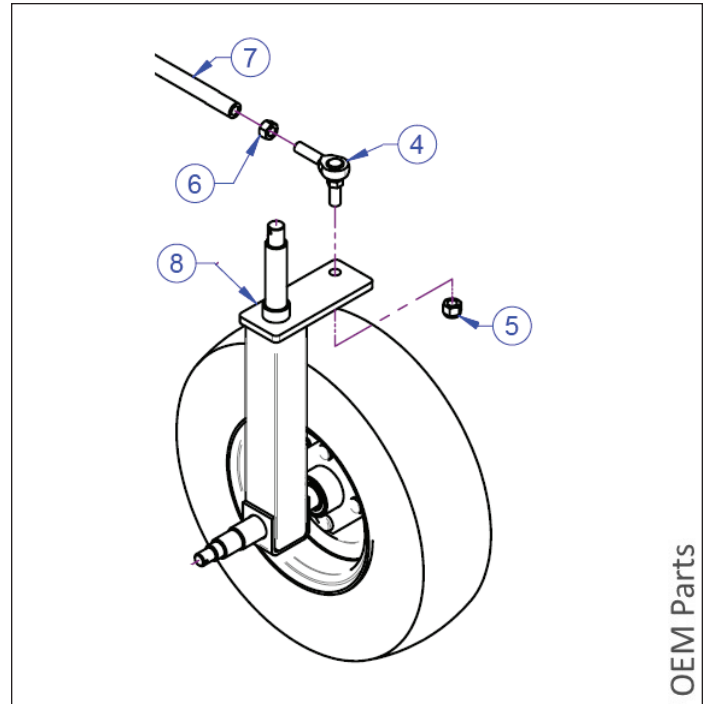

Figure 6-8. Long Steering Rod and Dual Hub
ASSEMBLY (FIGURE 6-8)
3. Remove nut (5), tie rod end (4) and long steering rod (7) from dual hub (8). See Figure 6-8.
1. Inspect nylon bushings (22). Replace them if they are worn or damaged.
2. Assemble bushings (22) into bell crank (35). Set bell crank between tab on the left and the console support on the right.
3. Install the short shaft (21) through the holes in the tab and the console support on the right. Secure shaft with two washers (23) and new cotter pins (24). Make sure bell crank moves freely and is oriented correctly with the long arm straight up and the short arm towards the vehicle.
4. Attach one tie rod end (4) of the long steering rod (7) to the dual hub (8) with nut (5). See Figure 6-8.
5. Attach other tie rod end (18) of long steering rod (7) to bell crank (35) with nut (5). Bell crank long arm must be straight up when attaching tie rod end. .
6. Install bushings (22) into the steering bell crank (35). Slide pivot shaft (21) through bushings and steering bell crank (35) and secure with two washers (23) and new cotter pins (24).
7. Install short steering rod (16) tie rod end (18) to steering bell crank (35) and secure with nut (19). Bell crank short arm must be horizontally straight towards the vehicle when attaching tie rod end.